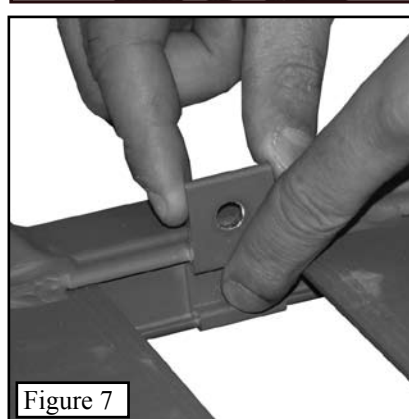

Figure 7
Step 1. Insert the Footrest Bracket into the perimeter tube as shown in **Figure 7**. This bracket should be placed between the first and second rung from the front of the platform.